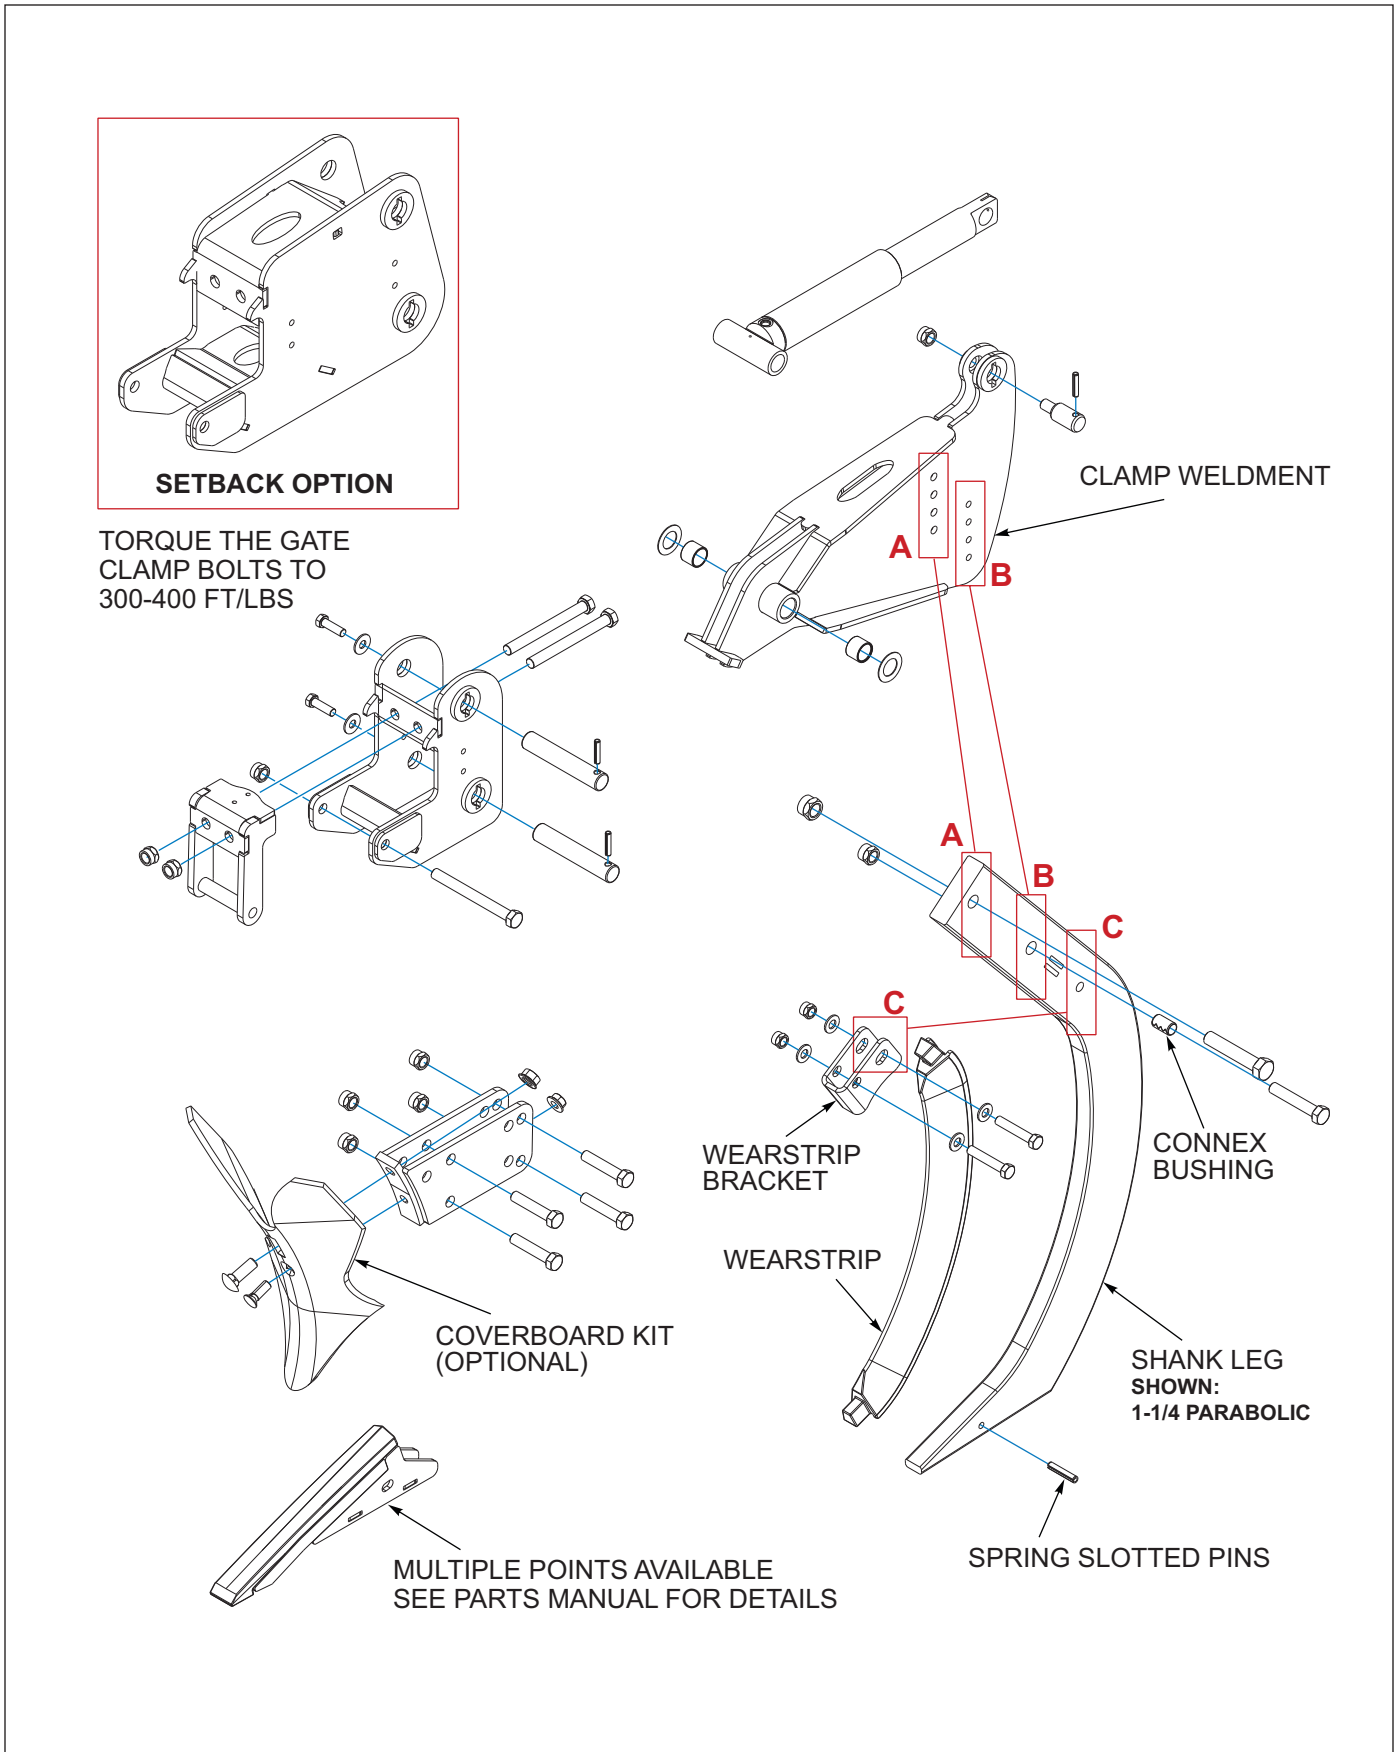

Figure 3-5: Auto-Reset Shank Clamp (Hydraulic)
1. Insert four 1/2-13 x 2-1/2 bolts into the coverboard bracket before attaching the coverboard furrower. (See Figure 3-5.) Secure with 1/2-13 locknuts and tighten only so that locking portion of nut engages the thread. The customer will tighten these nuts after mounting to shank.